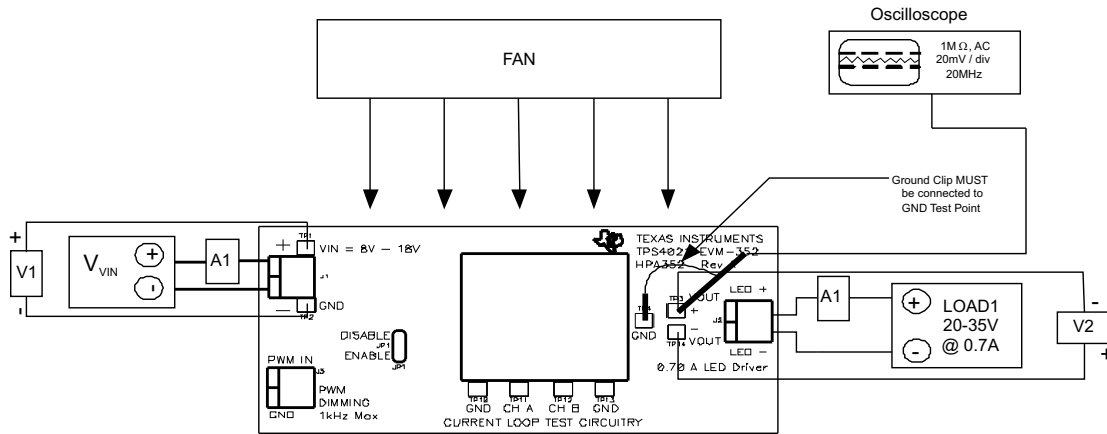

Figure 2. TPS40211EVM-352 Recommended Test Set-Up
The input voltage source ( $V_{IN}$ ) should be a 0-V to 18-V variable dc source capable of 4  $A_{DC}$ . Connect  $V_{IN}$  to J1 as shown in Figure 2.
Shown in Figure 2 is the basic test set up recommended to evaluate the TPS40211EVM-352. Note that the return for J1 and JP3 are not the same system ground. The connections should remain separate as shown in Figure 2.
2. Prior to connecting the dc input source,  $V_{IN}$ , it is advisable to limit the source current from  $V_{IN}$  to 4.0 A maximum. Make sure  $V_{IN}$  is initially set to 0 V and connected as shown in Figure 2.
3. Connect the ammeter A1 (0 A to 4 A range) between  $V_{IN}$  and J1 as shown in Figure 2.
4. Connect voltmeter V1 to TP1 and TP2 as shown in Figure 2.
5. Connect LOAD1 to J3 as shown in Figure 2. Set LOAD1 to constant current mode to sink 0 ADC before  $V_{IN}$  is applied.
6. Connect voltmeter, V2 across TP7 and TP8 as shown in Figure 2.
4. Connect oscilloscope probe to TP14 and TP15 as shown in Figure 2.